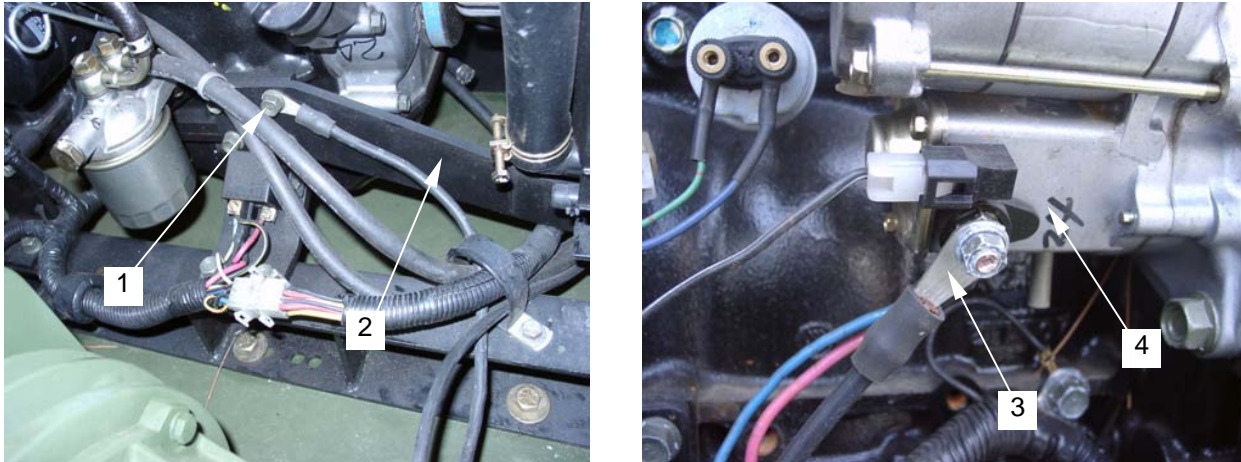

Figure 6. Battery Cables
12. Install a new negative battery cable (**figure 6, item 1**), as necessary, onto engine mount (**figure 6, item 2**) with the retained hardware.
13. Install a new positive battery cable (**figure 6, item 3**), as necessary, onto the starter (**figure 6, item 4**) with the retained hardware.